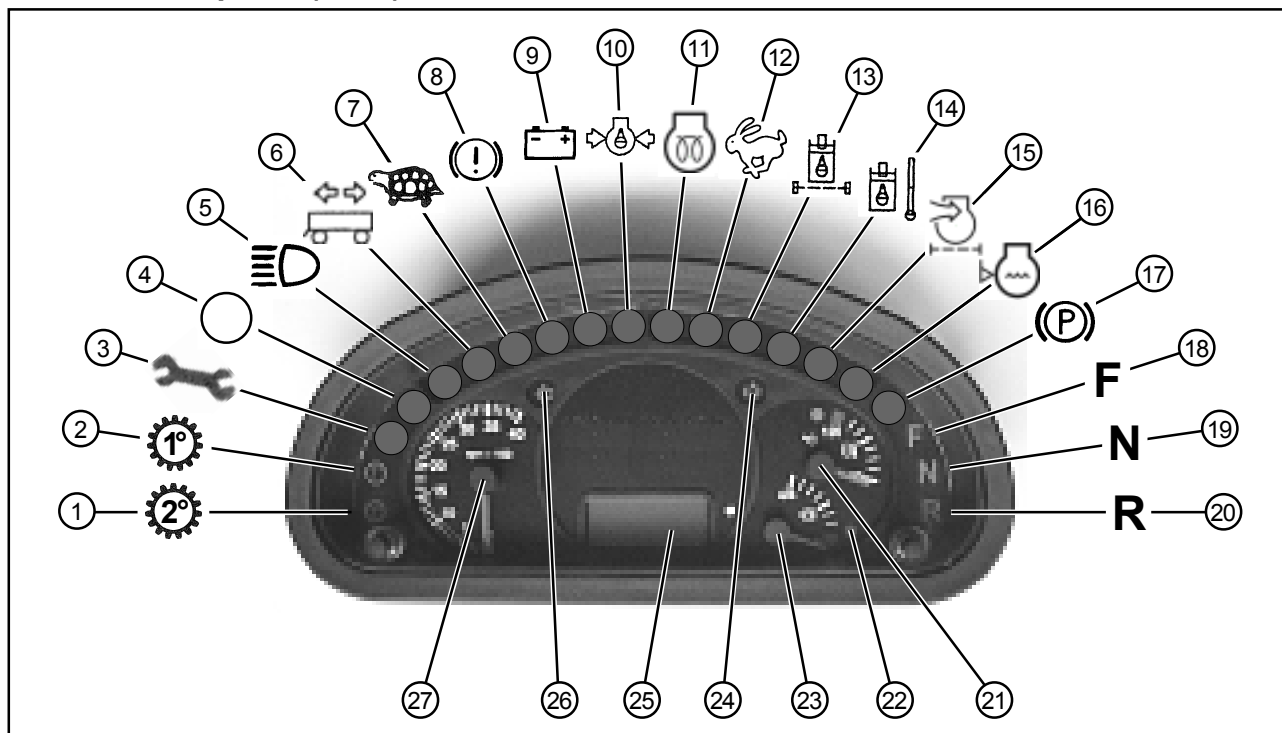

Figure 4-8
- 1 - Multifunction panel (Figure 4-8)